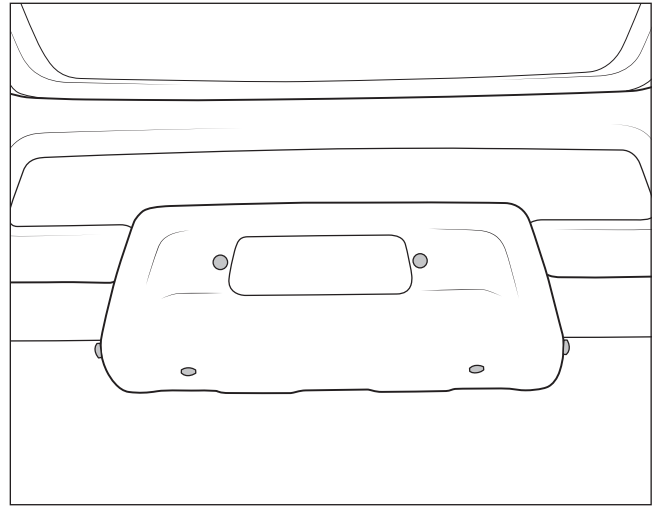

Figure 2
- B. Remove the 2 M10 bolts in middle of Front Bumper Skid (fig. 2).
- C. Remove the 2 torx bolts from bottom of Front Bumper Skid (fig. 2).
20. Reinstall Front Bumper Skid (fig. 2).